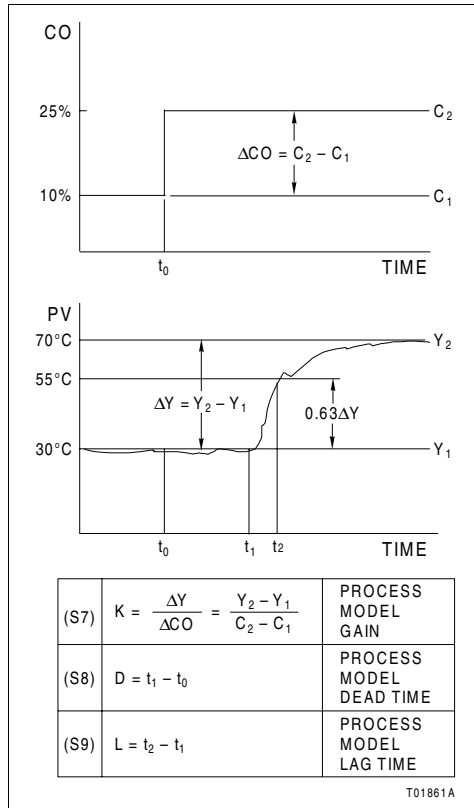

Figure 160-1. Process Model Parameters
Many processes have open-loop step responses similar to the one shown in Figure 160-1. In an open-loop step test, the controller is in manual and the controller output (CO) increases or decreases in a single step. The process response is the behavior of the process variable (PV) in response to the CO change. In the test, PV and CO are initially at steady-state near the desired operating point (i.e., the values of PV and CO are constant over a reasonable period prior to the CO step change). The value of CO stays constant after the step change, and PV is monitored until it has reached a new constant value.
The ISC controller uses three parameters to characterize the open-loop step process response: S7, process model gain (K); S8, process model deadtime (D); and S9, process model lag time constant (L). Figure 160-1 shows an example of these parameters. In this example, PV is initially at steady-state at 30 degrees Celsius and CO is at ten percent. CO changes from ten percent to 25 percent at time t_0 . PV starts to move from its initial value at time t_1 and reaches a new steady-state temperature of about 70 degrees Celsius. Process model gain is the ratio of the steady-state change in PV to the change in CO, for example,
model parameters. Refer to Figure 160-1 for sample calculations of these parameters.